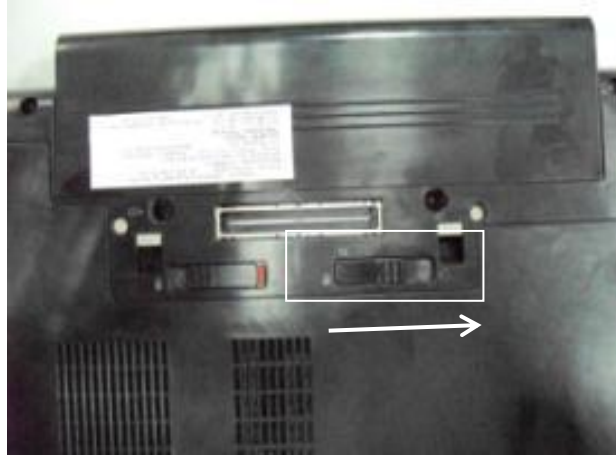

Fig.1
1. Slide the door latch to the unlock position. (Fig.1)